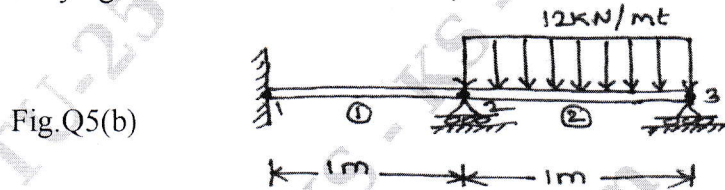

Fig.Q5(b)
b. Solve for vertical deflection and slopes, at point 2 and 3, using beam elements for the structure shown in Fig. Q5(b). Also determine the deflection at the counter of the portion of the beam carrying UDL.  $E = 2 \times 10^8 \text{ kN/m}^2$ ,  $I = 4 \times 10^6 \text{ mm}^4$ . (10 Marks)